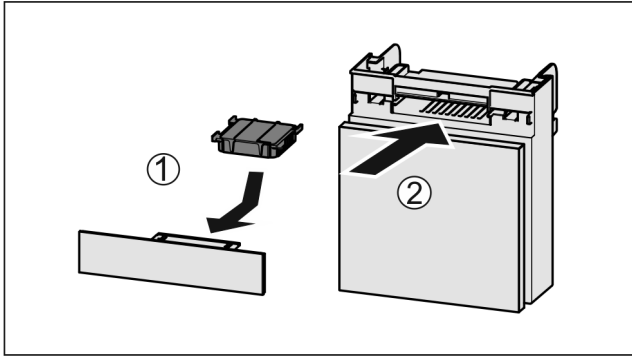

Fig. 168
- ▶ Insert the carbon filter as shown in the diagram Fig. 168 (1).
- ▶ Push the compartment in Fig. 168 (2).